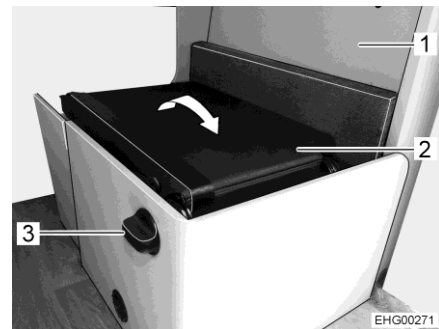
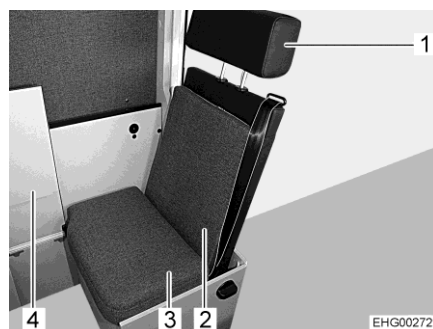

Fig. 11 Folding out the additional seat
Fig. 12 Additional seat
- Open the cover (Fig. 11,1) of the divan.
- Turn and hold the handle (Fig. 11,3) to unlock the backrest.
- Fold out the backrest (Fig. 11,2).
- Fold folding element (Fig. 12,4) of the divan upwards.
- Hang back cushion (Fig. 12,2) on tongue on the headrest rods.
- Fix back cushion (Fig. 12,2) to the backrest (Fig. 11,2) with the lashing strap. When doing this, make sure that the safety belt of the additional seat does not get caught.
- Place small seat cushion (Fig. 12,3) on the seat such that the fixing tongue points towards the backrest (Fig. 11,2).